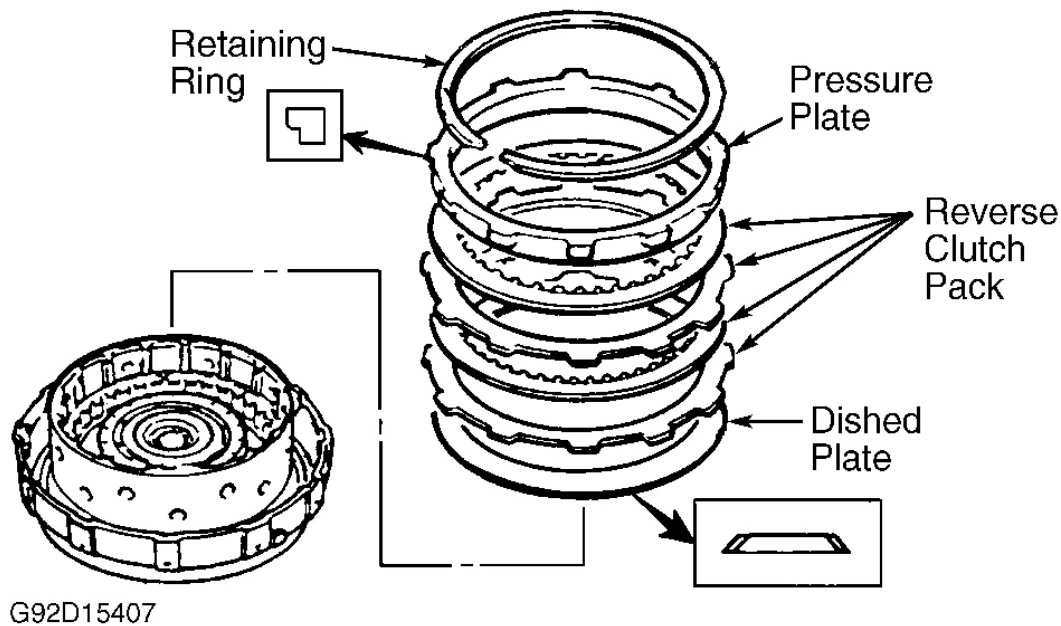

Fig. 13: Exploded View Of Reverse Clutch
Remove retaining ring, pressure plate, reverse clutch pack and dished plate. See **Fig. 13**. Using appropriate spring compressor, compress piston return spring. Remove retaining ring from groove using snap ring pliers. Place forward/coasting/reverse clutch drum assembly on oil pump. Carefully remove reverse clutch piston by applying compressed air to reverse clutch fluid passage in oil pump. See **Fig. 10**.
3. Using spring compressor, compress spring. Install retaining ring using a screwdriver. Remove spring compressor. Install dished plate with beveled side facing upward. See **Fig. 13**. Install reverse clutch pack.